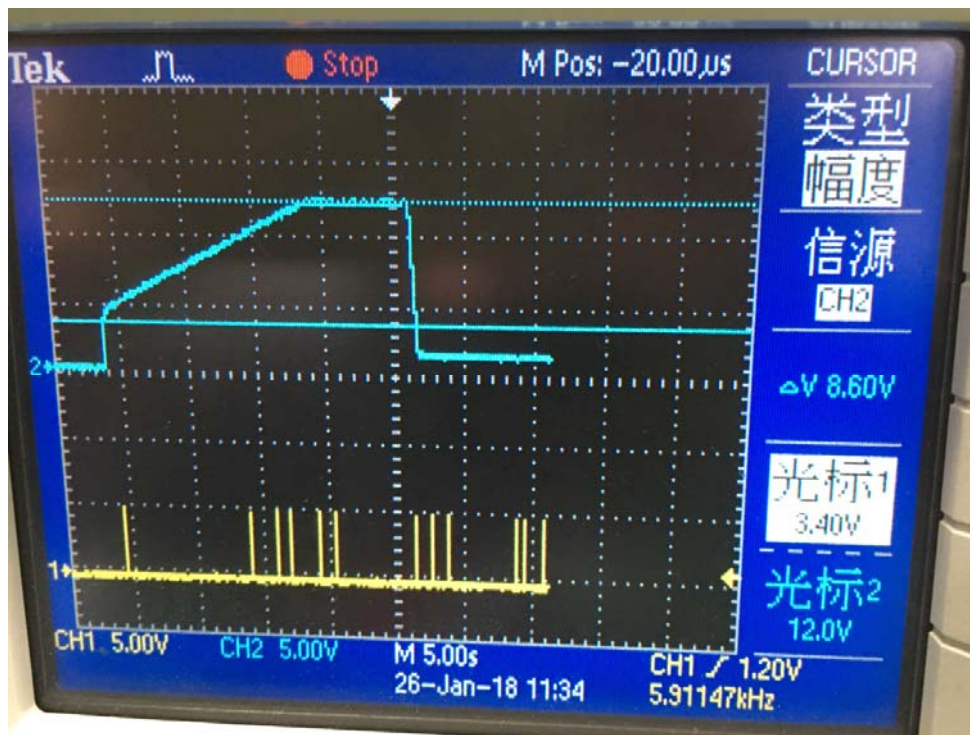

Fig1.2.1b FB pin voltage
1.2.1b CH1 is 0V, and CH2 is FB pin voltage, See Fig1.2.1b.